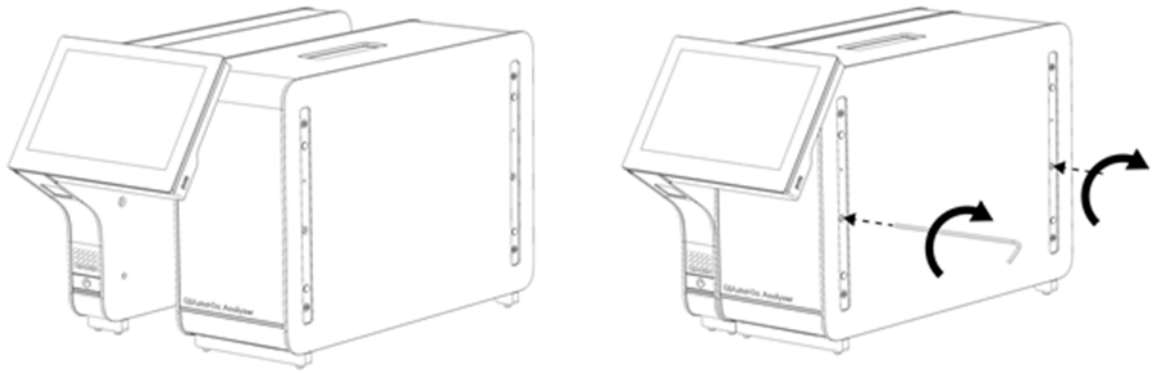

Figure 6. Attaching the Operational Module to the Analytical Module.
3. Remove the Operational Module from its box and attach it to the left side of the Analytical Module. Tighten the screws using the Analytical-Operational Module Assembly Tool delivered with the QIAstat-Dx Analyzer 2.0 (Figure 6).